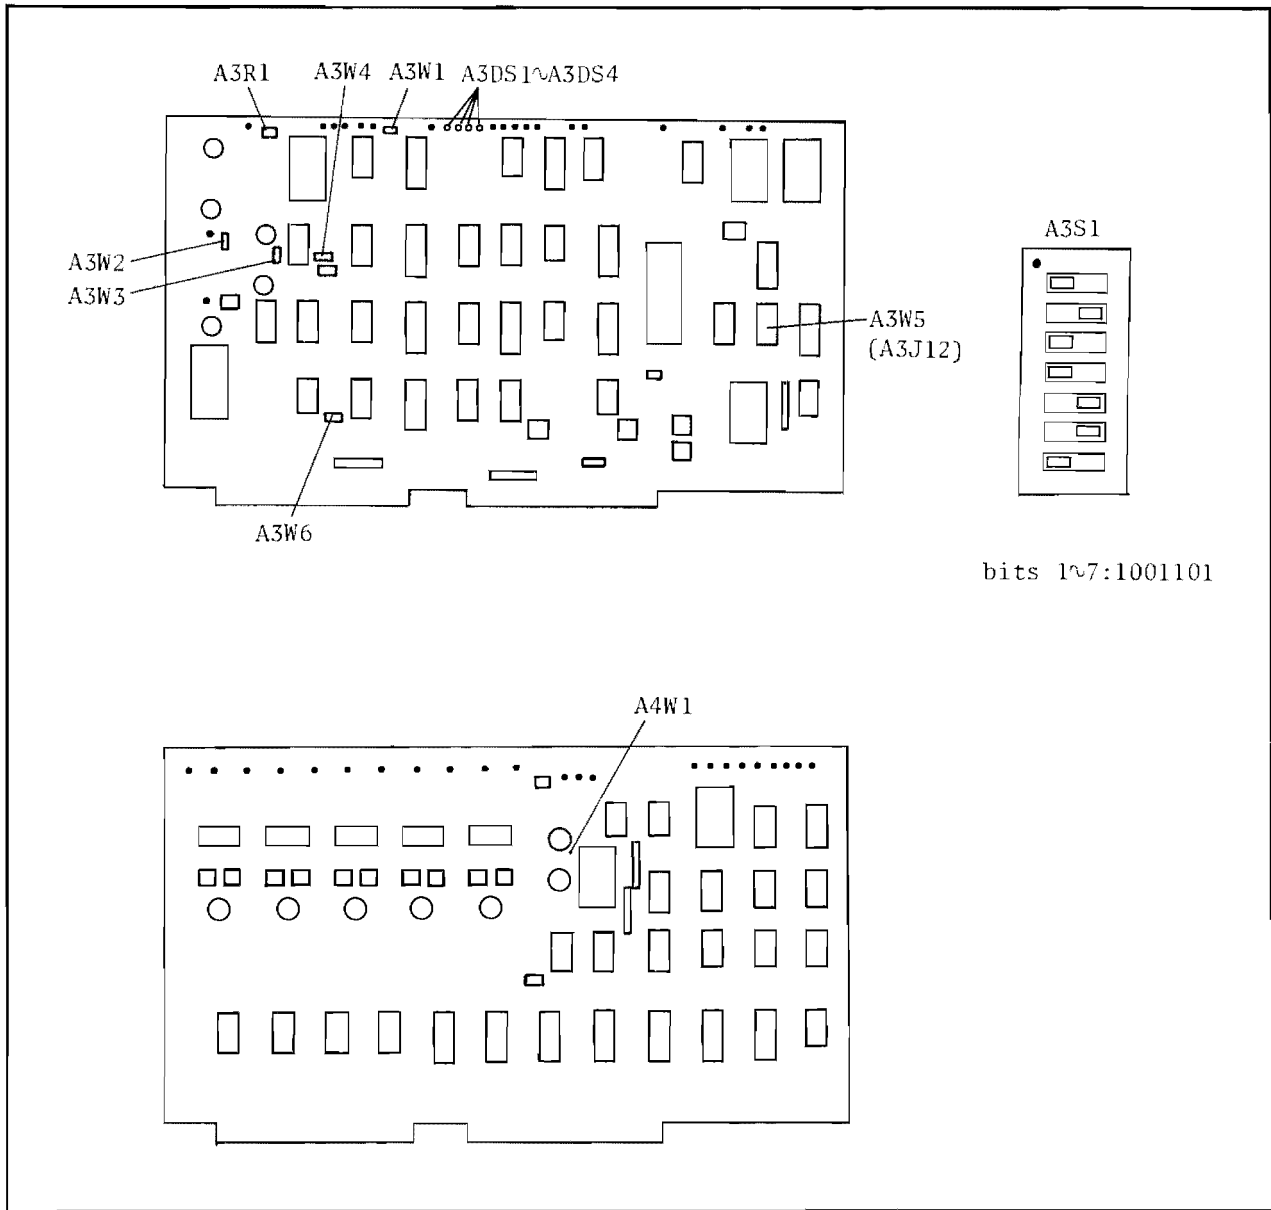

Figure 5-17. Check/Adjustment Point Locations.
1. Remove the A3 SMU Control and A-D Converter Board and the A4 D-A Converter Board, and set A3S1 (SW1) to 1001101. See Figure 5-17 for the location of A3S1.
5. Adjust A3R1 (see Figure 5-17 for the location) until the LED annunciator (A3DS1~4) pattern indicates "pass" as shown in Figure 5-16.